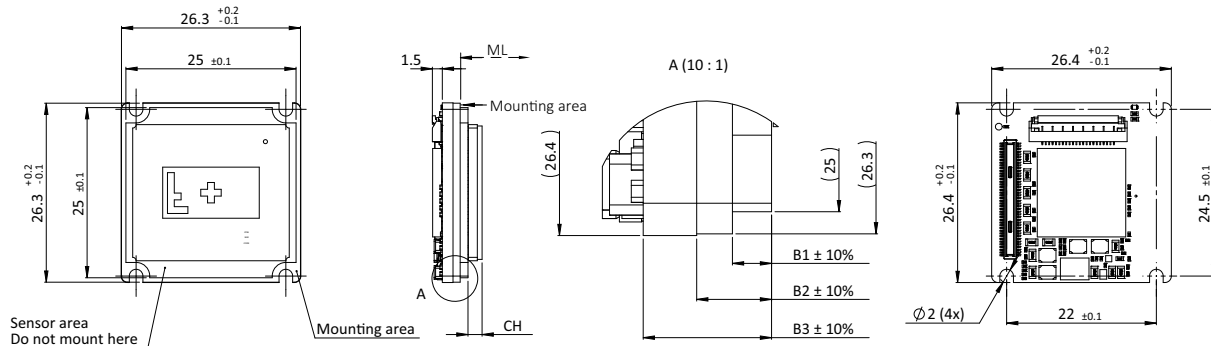

Figure 75: Bare Board (standard Alvium) dimensions
Dimensions that are common between different models are shown in Figure 75, model specific dimensions are listed in Table 98. **Mechanical length (ML)** defines the mechanical distance from the mounting area to the lens mount front flange, without optical filter. **Components height (CH)** relates to the electronic components with maximum height, sometimes the sensor.